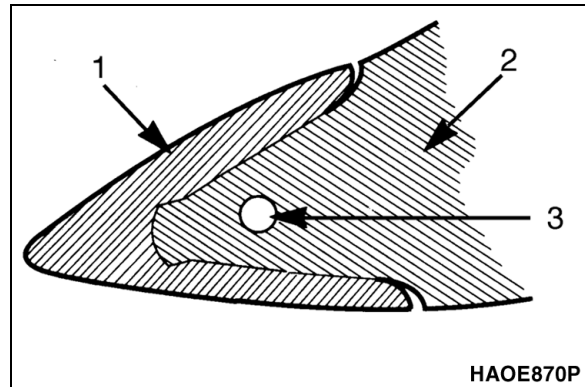

Figure 27 1. POINT, 2. ADAPTER & 3. PIN
2. Do not allow the replaceable bucket teeth to wear down to the point that the bucket adapter is exposed. See Figure 27.